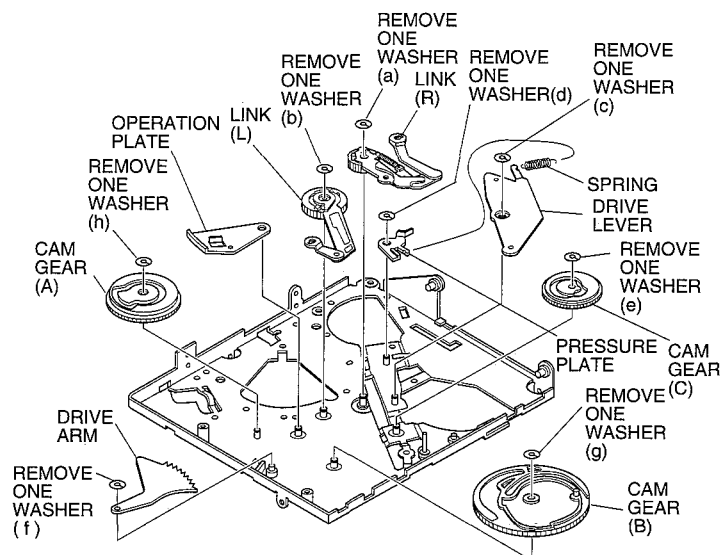
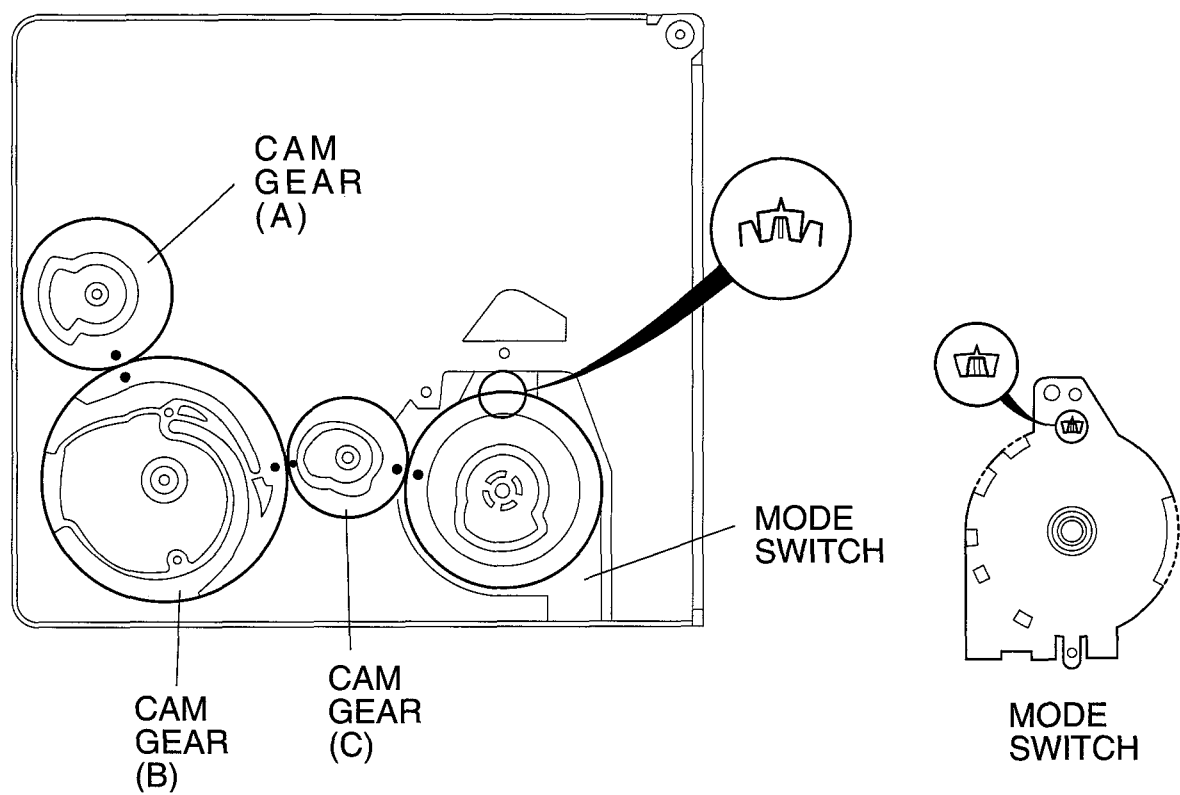
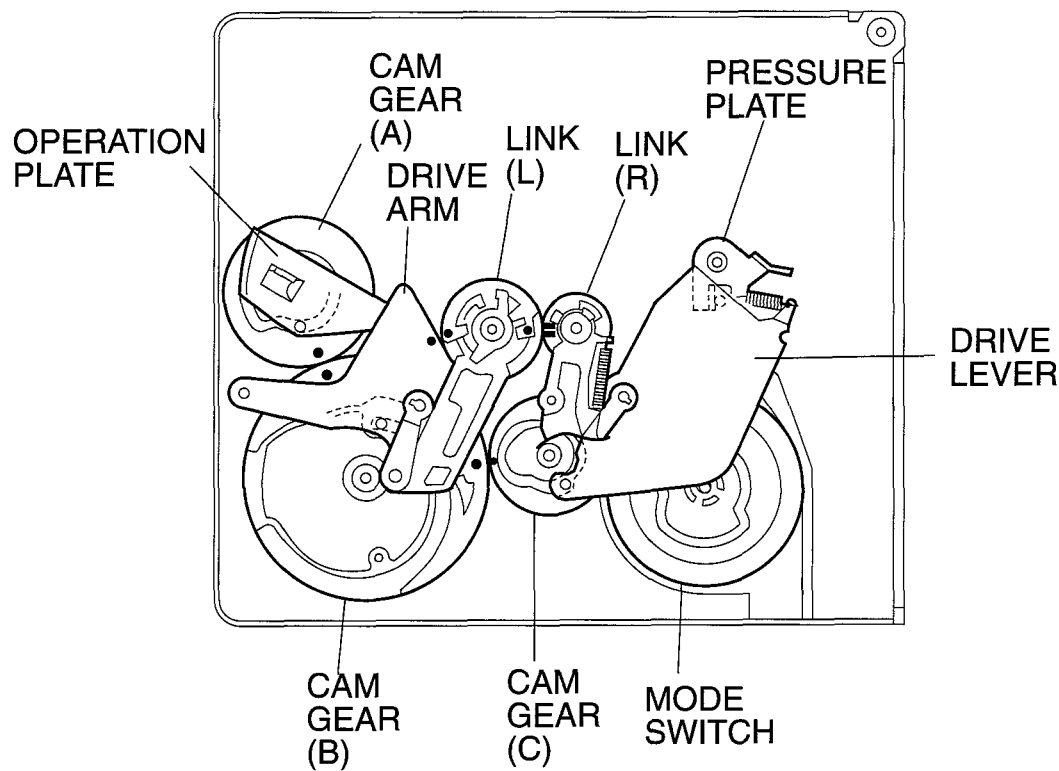

Fig.2-13
Fig.2-14
Fig.2-15
1. Make sure of gear phase. (See Figs. 2-14 and 2-15)
2. If guide rail (I) has been removed, install the loading motor holder before installing guide rail (I).
1. When installing either of the following components, install the mode switch and make sure of phase matching of gears. (See Figs. 2-14 and 2-15)
■ Link (R), Link (L)
- (1) Remove 1 washer (a) and remove the link (R). (See Fig. 2-13)
- (2) Remove 1 washer (b) and remove the link (L).
■ Drive Lever, Cam Gear (C), Pressure Plate
- (3) Remove 1 washer (c). (See Fig. 2-13)
- (4) Removing the drive lever from the main chassis, release the spring between the drive lever and pressure plate.
- (5) Remove 1 washer (d) and remove the pressure plate.
- (6) Remove 1 washer (e) and remove the cam gear (C).
2. Before installing the drive lever in the regular position (as shown in Fig. 2-15), hook the spring between the drive lever and pressure plate.
3. Fixing the pressure plate near the regular position (as shown in Fig. 2-15) with tweezers, etc., install the drive lever in the regular position.
■ Drive Arm, Operation Plate, Cam Gear (B), Cam Gear (A)
- (3) Remove 1 washer (f) and remove the drive arm. (See Fig. 2-13)
- (4) Remove the operation plate.
- (5) Remove 1 washer (g) and remove the cam gear (B).
- (6) Remove 1 washer (h) and remove the cam gear (A).